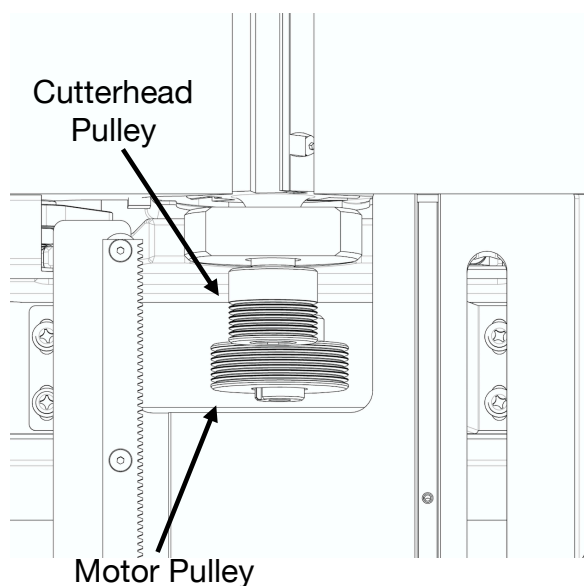

FIG. 42
STEP 3: Check their parallelism by looking down length of belt and pulley faces as in **FIG. 42**, and/or placing straight edge against pulley faces as in **FIG. 43**.